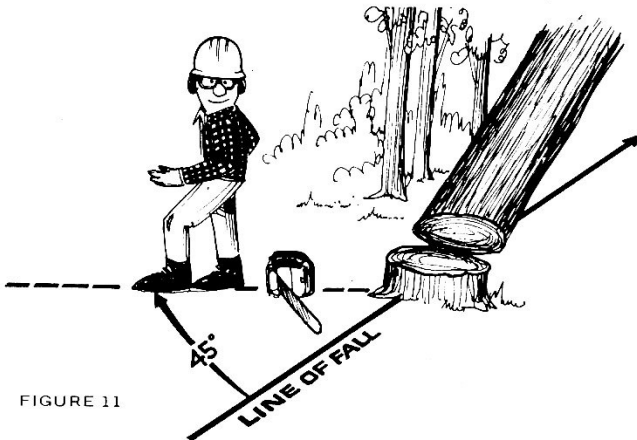

FIGURE 11
23. As the felling cut gets close to the hinge the tree should begin to fall. If there is any chance that the tree might not fall in the desired direction, or may rock back and bind the saw chain, stop cutting before the felling back cut is completed and use wedges made of wood, plastic or aluminum to open the cut and drop the tree along the desired line of fall. When the tree begins to fall, remove the chain saw from the cut, stop the engine, put the chain saw down, then use the retreat path planned. Be alert for overhead limbs falling and watch your footing. See Figure 11.